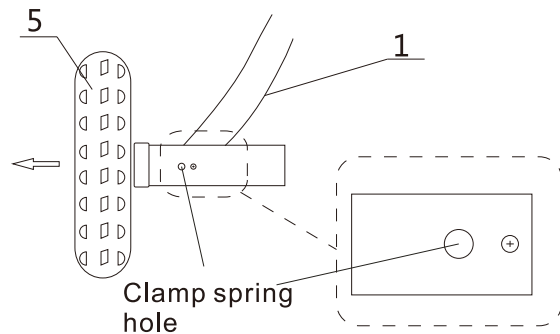

Fig. 2
2. Remove the rear wheel with a small tool through the clamp spring hole under the rear axle tube to jack up the clamp spring (Fig 2).